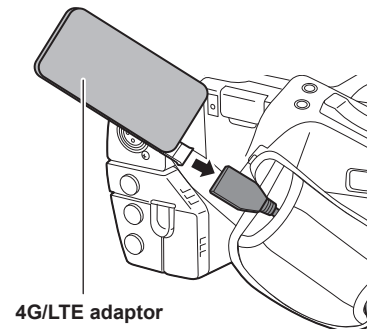

Fig. 6
- 5 Connect the 4G/LTE adaptor. (Fig. 6)